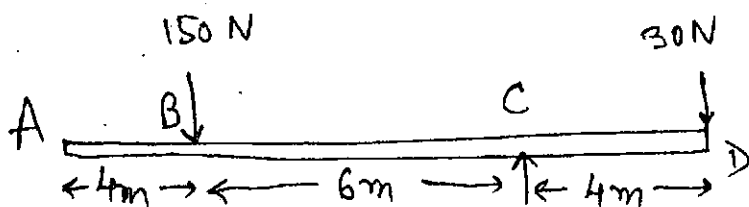

Fig. 5
4. (a) Using conjugate beam method or area moment method find deflection at point D for the loaded and supported beam shown in fig. 5. 10